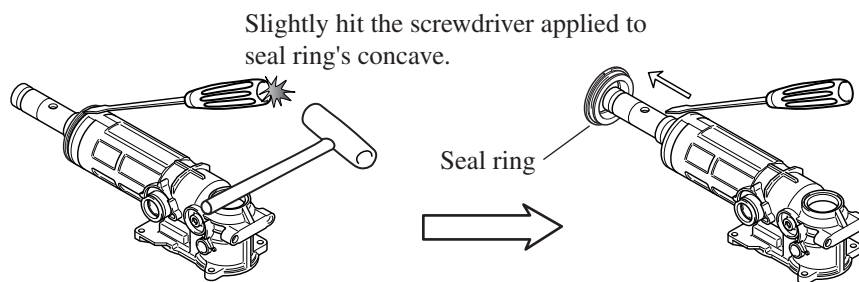

Fig. 21
- (1) Disassemble seal ring from crank housing as illustrated in Fig. 21.